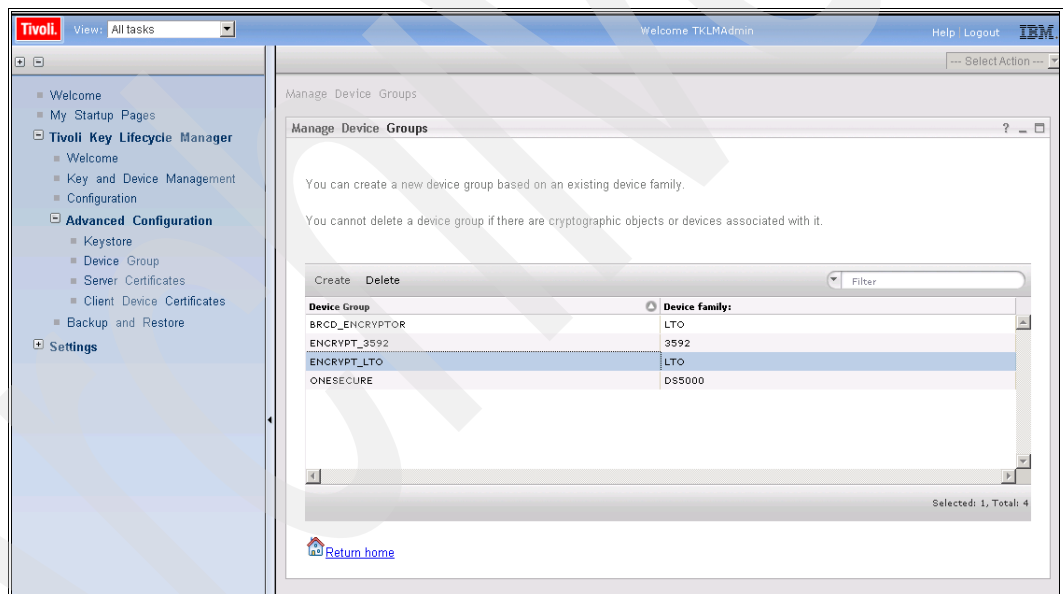

Figure 9-29 Manage device groups with highlighted device group
3. Highlight the device group and click **Delete** (Figure 9-29).